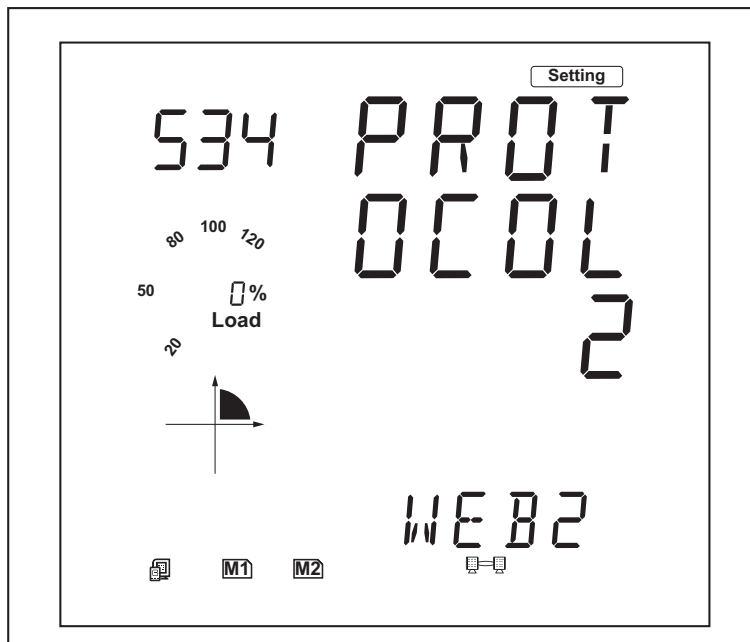

Figure 14: S34: PROTOCOL 2 screen
2. Press **P** repeatedly until you see screen S34: PROTOCOL 2, as shown in Figure 14.